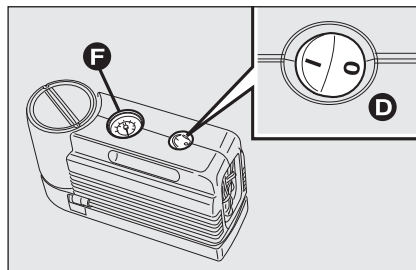
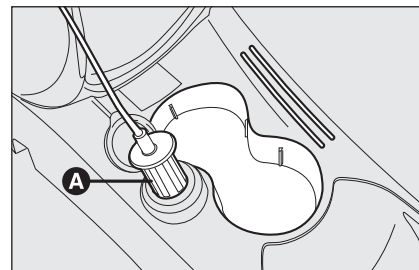

fig. 5
fig. 6
- ❑ make sure the compressor switch **D-fig. 5** is set to 0 (off), start the engine and fit plug **A-fig. 6** into the nearest current outlet and then turn on the compressor by setting switch **D-fig. 5** to **I** (on). Inflate the tyre to the pressure specified in paragraph "Inflation pressure" in section "Technical Specifications". Check tyre pressure on gauge **F-fig. 5** with compressor off to obtain precise reading;